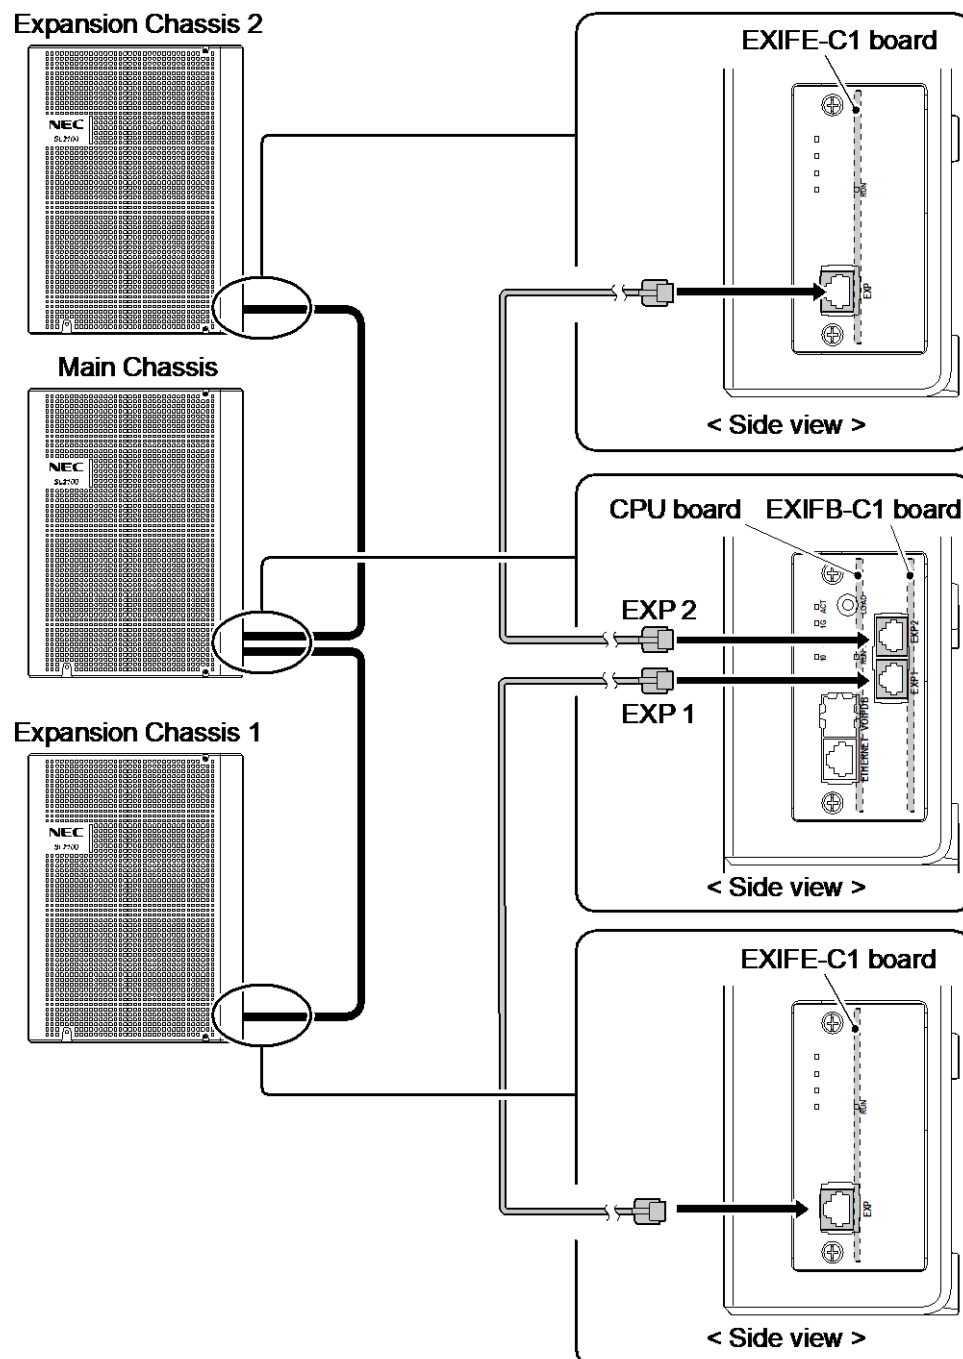

Figure 2-23 System Expansion Cabling
1. Connect the Main Chassis and Expansion Chassis using the NEC provided CAT5 straight-through cable, attached to the EXIFE-C1 board. Attach one end to each Expansion Chassis EXT connector on the EXIFE board (see Figure 2-23 System Expansion Cabling). Attach the opposite end to the EXP1, EXP2 connector on the EXIFB of the Main Chassis.